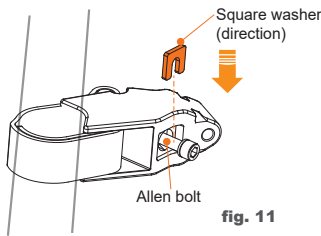

fig. 11
4. When bolt is pushed through hole, strap must be snug, and bolt should be long enough to allow square washer to go behind bolt head. The small, round washer sits on top of square washer (see fig. 11, 12). Tighten bolts, but not too firmly as further adjustment may be necessary.